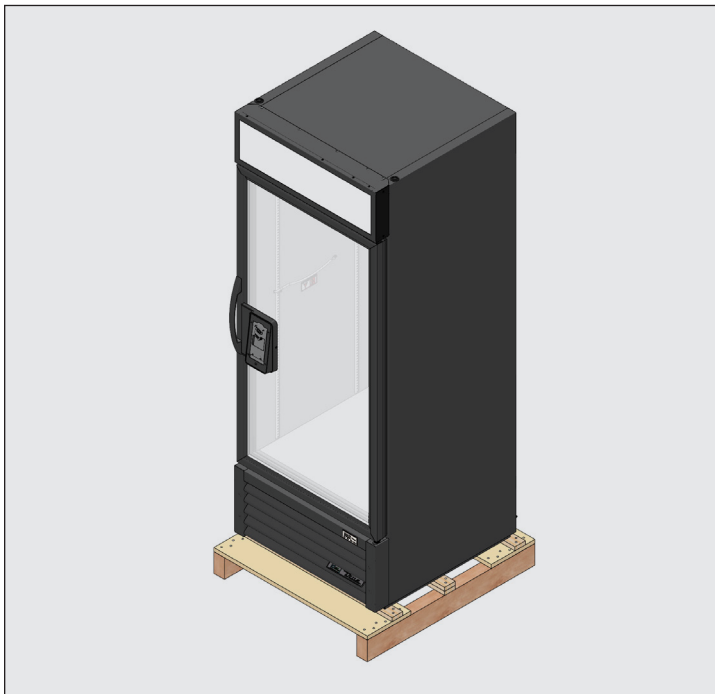

Fig. 1. Remove the exterior packaging.
2. Remove the exterior packaging. See fig. 1.